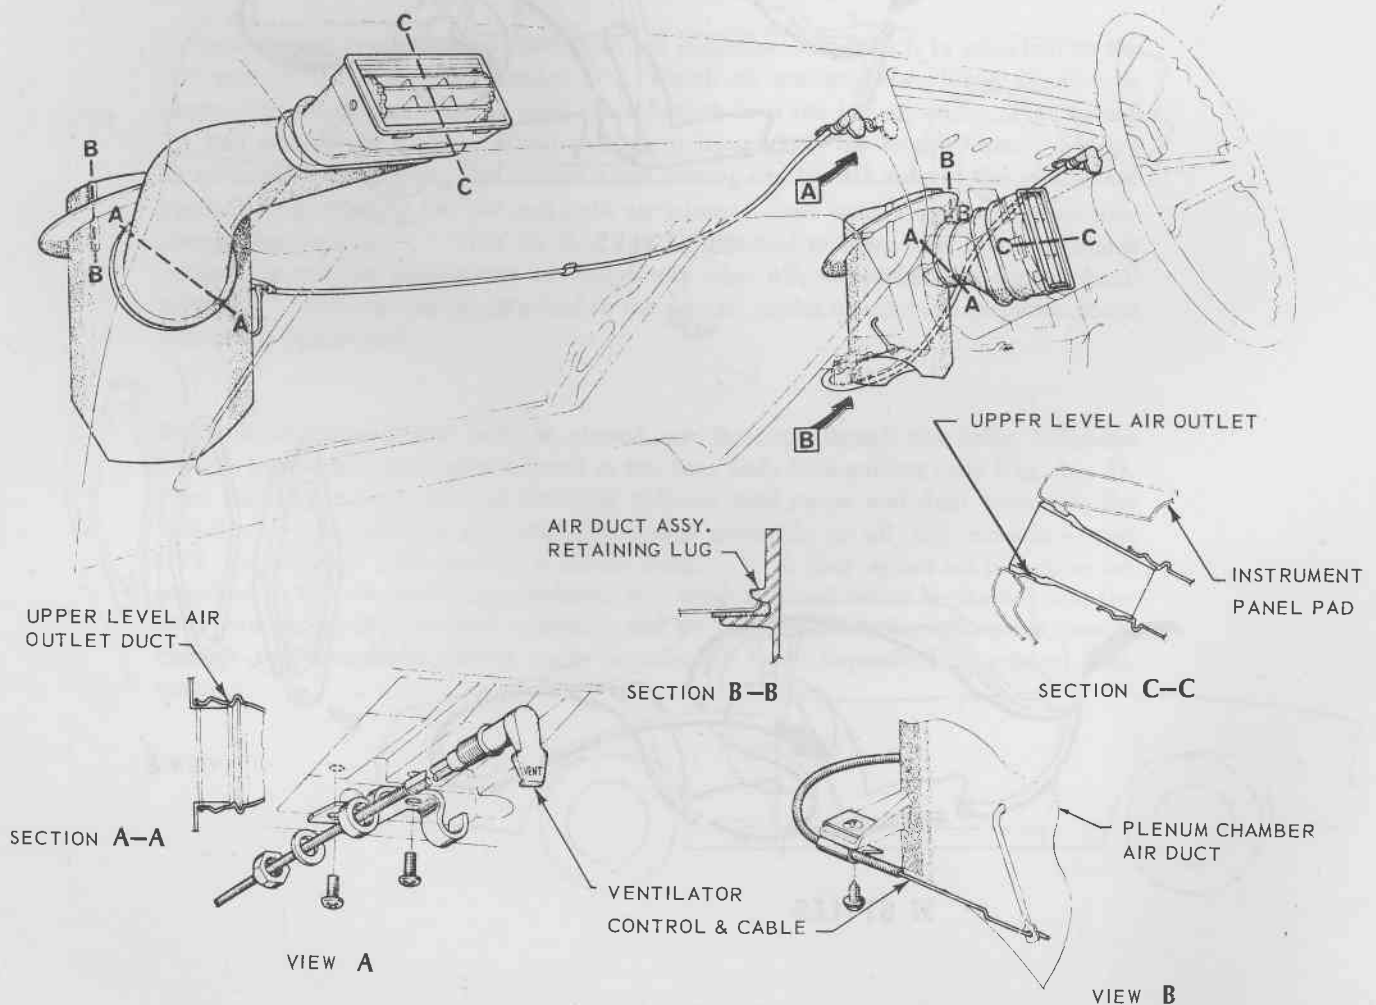

FIG 3 - 2
2. From behind instrument panel, compress top and bottom of upper level air outlet (see Section C-C, Fig. 3 - 2) withdrawing outlet into body from instrument panel.